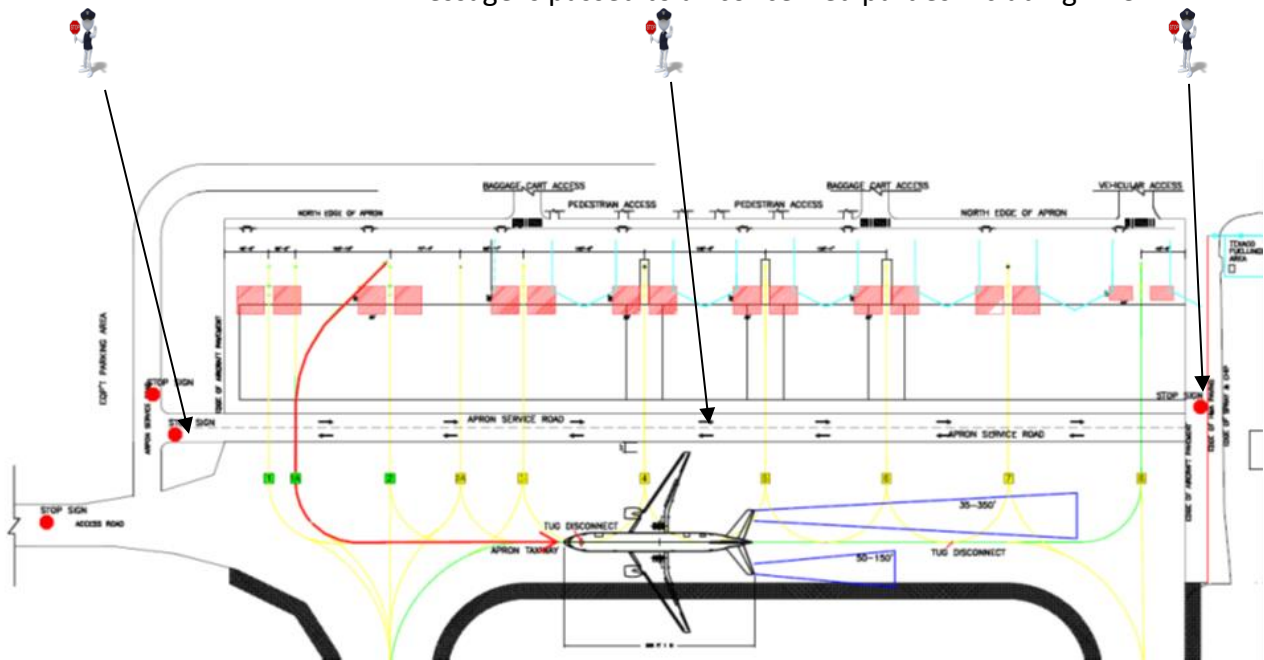

Figure. 2
- a) AOCC Airport Duty Officer will contact the Airside Duty Officer, Safety Office, and Security Office and dispatch appropriate personnel to take up post as shown in **figure 2** on the next page, in order to stop the flow of traffic in the driving lane;